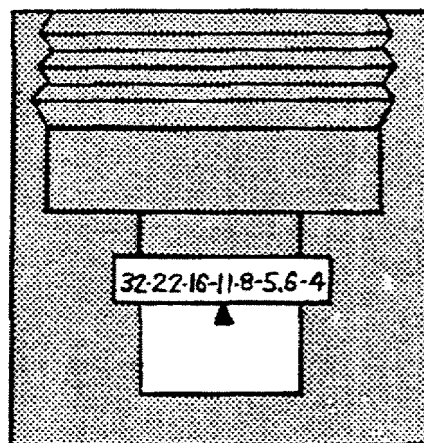

Figure 1-9. Diaphragm Ring.
f. Diaphragm Ring (fig 1-9) - rotates (click stops) to preselect the proper f/stop. The Aperture Selector will stop when being moved from right to left, at the position indicated by the Diaphragm Ring.